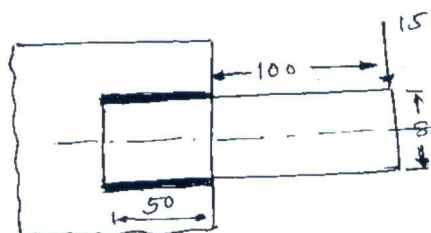

Fig. Q7 (b)
- 7 a. A bracket having a load of 15 kN is to be welded as shown in Fig. Q7 (a). Find the size of weld required of allowable shear stress is not to exceed 80 N/mm². (08 Marks)